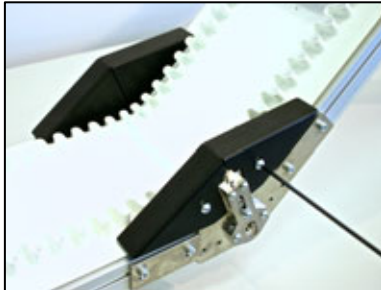

Figure 4
e. Remove idler pulley guards from the Z-Track connector plates using an Allen Wrench. There will be two idler guards per frame bend (Figures 4 & 5).